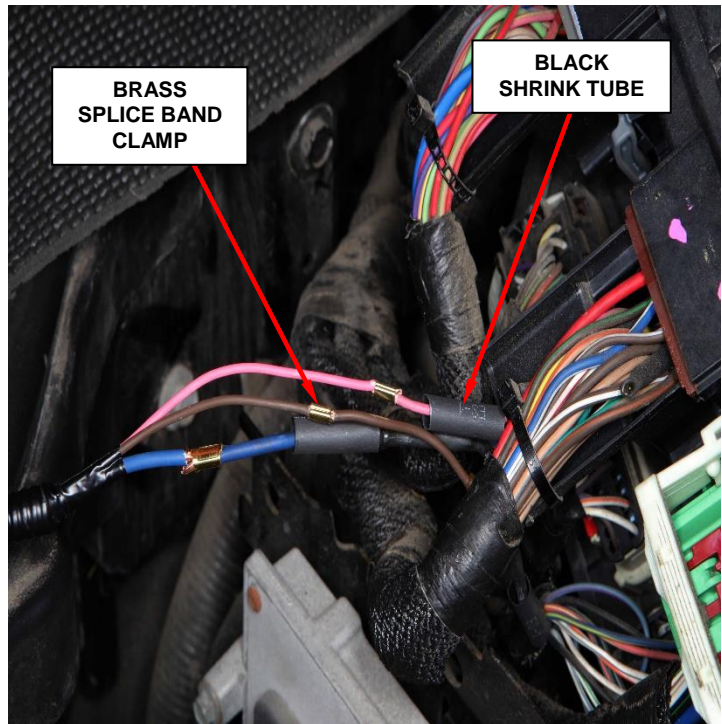

Figure 6 – Splice Clips
11. Place a piece of black shrink tube, provided in the repair kit, over the cut brown, blue wire and pink wire (Figure 6).
12. Using the supplied brass splice band clamp and crimp tool 10042, crimp the wires on the wire harness side (brown wire, pink wire and blue wire) to the **NEW** fuel pump relay harness (brown wire, pink wire and blue wire) (Figure 6).